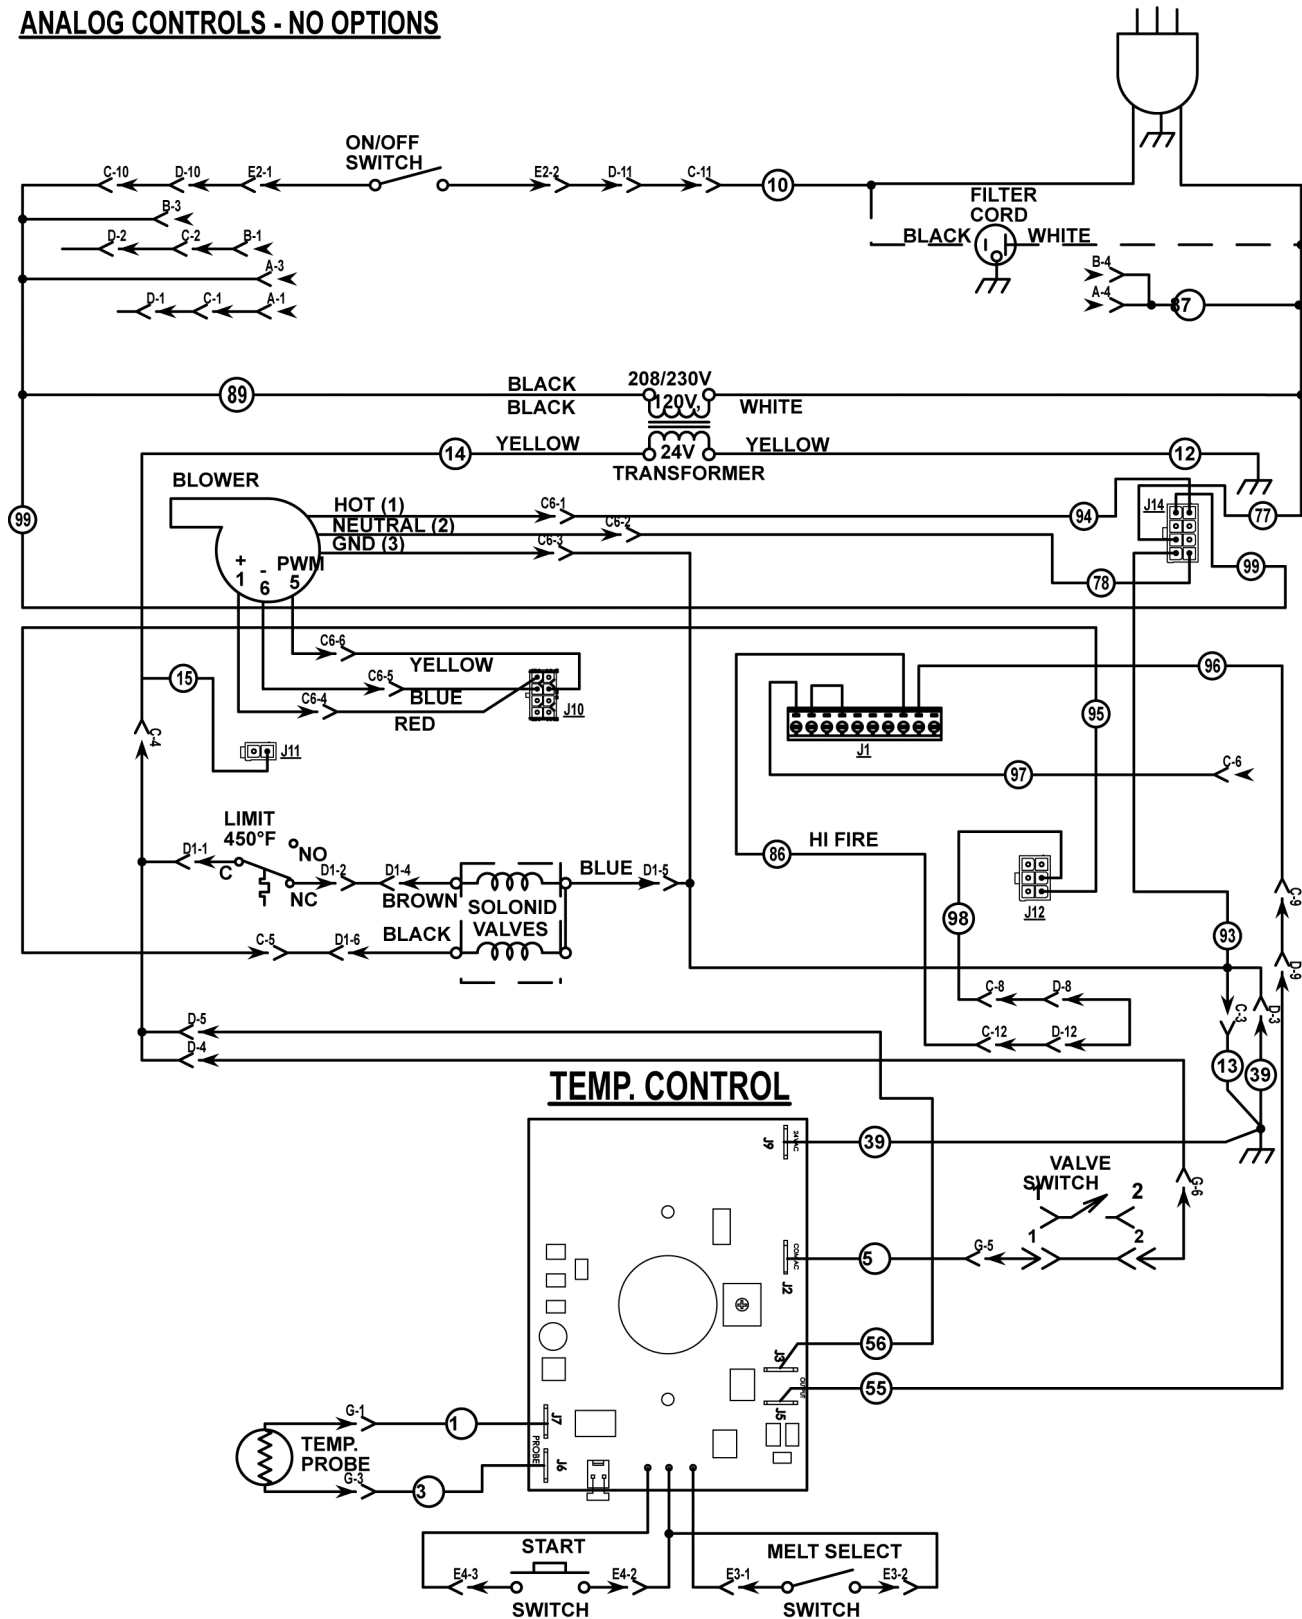

Fig. 76
5. The basket motor turns, raising the basket arm until the basket cam trips the basket switch to open the NC circuit and close the NO circuit. (Fig. 76)